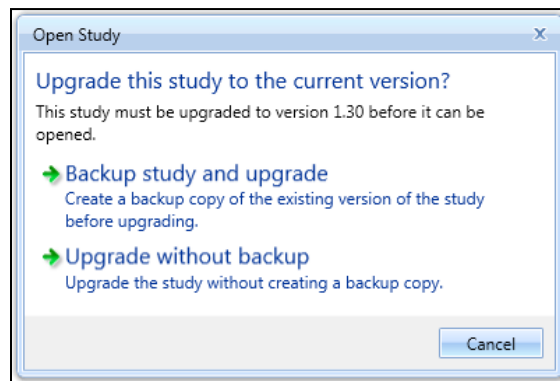

Figure 4-2 Upgrade Study Dialog
4. In the *Open Study* confirmation dialog (Figure 4-2), select an option: